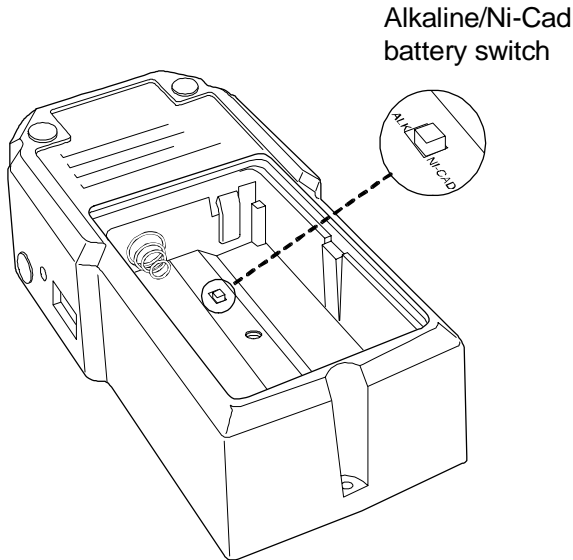

Figure 6-3 GT Series Gas Monitor Battery Compartment
4. Verify that the **ALK/NI-CAD** switch is set to the proper setting (see Figure 6-3).